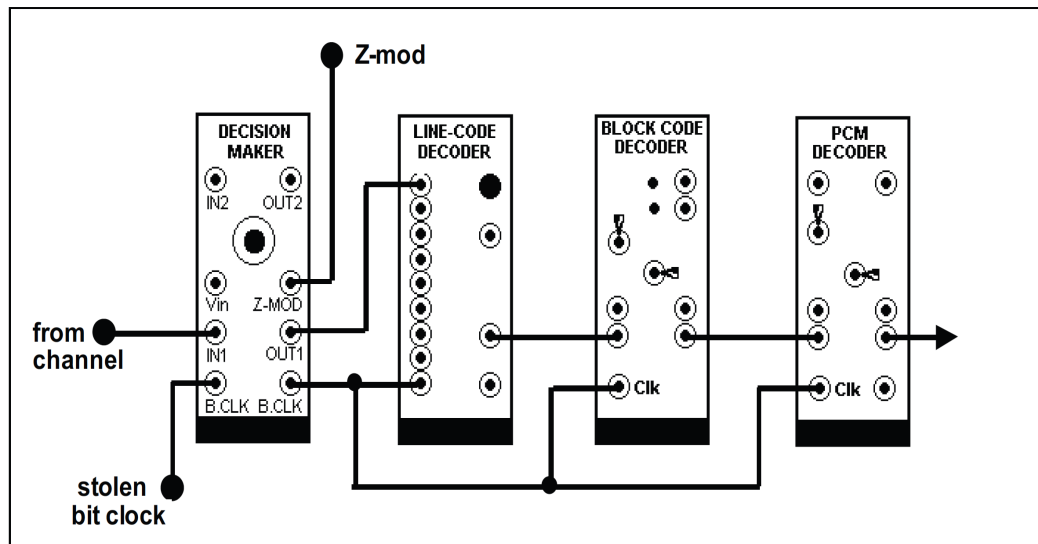

Figure 5.4: The receiver
1. patch up the model of Fig. 5.4